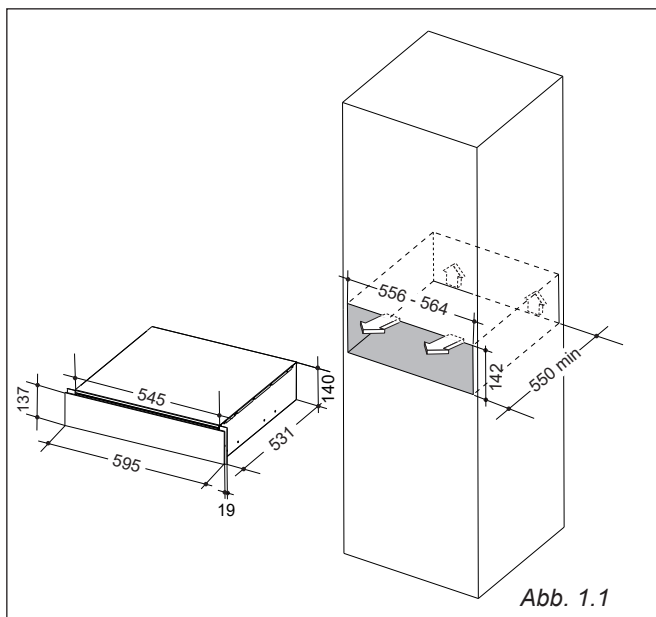

Abb. 1.1
- Installation requires a compartment as illustrated in figures 1.1 or 1.2.